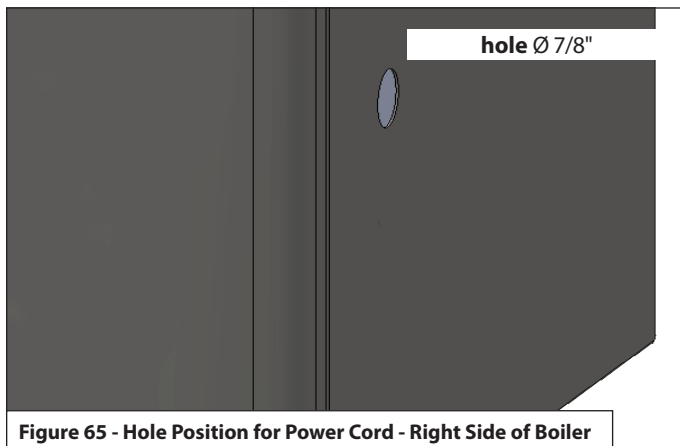

Figure 65 - Hole Position for Power Cord - Right Side of Boiler
6. Connect the cable on the connector CN4 (DHW pump) and CN5 (CH pump). See Electrical Wiring Diagram, Figure 65.